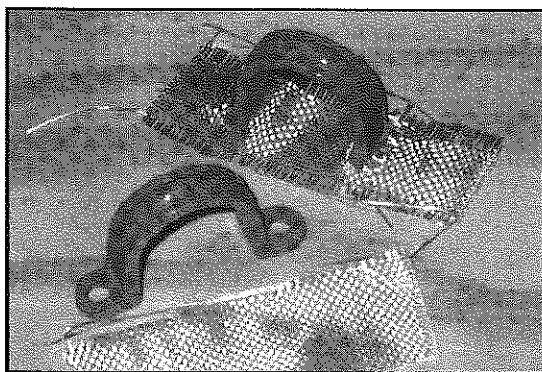

Figure 7. Bracket and fiberglass cloth.
- Set the brackets in place, smooth the cloth using your fingers (wearing latex gloves, of course) and let the resin set up. (Figure 7.)